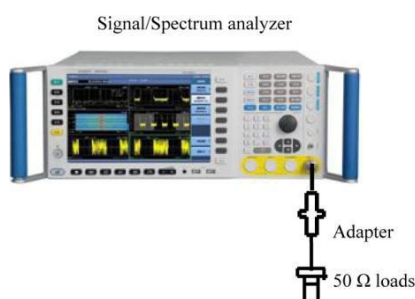

Fig. 8.14 Schematic diagram of display average noise level test
1) Connect the 50 Ω load and the adapter to the input interface of the S3503 analyzer as shown in Fig. 8.14.